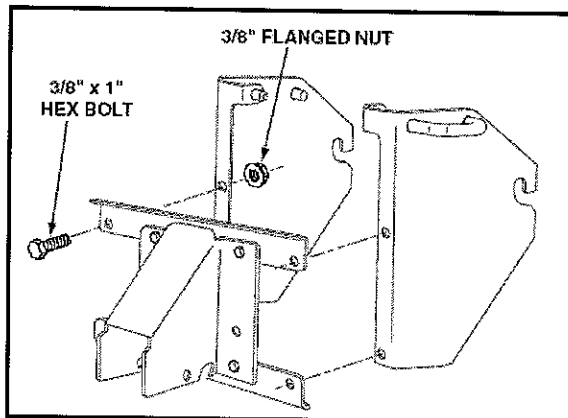

FIGURE 4
1. Using a 9/16" box wrench and 9/16" socket and ratchet, remove the four (4) 3/8" x 1" bolts and 3/8"-16 flange lock nuts that secure the hitch brackets to the angle support brackets. See Figure 4.